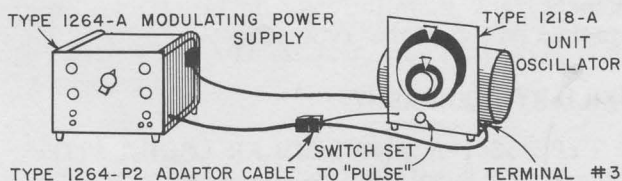

Figure 4. Connection of Type 1264-A to Type 1218-A Unit Oscillator by Means of Type 1264-P2 Adaptor Cable.
2.4.3 CONNECTIONS TO TYPE 1218-A UNIT OSCILLATOR. The Type 1264-A Modulating Power Supply can be connected to the Type 1218-A Unit Oscillator by means of the Type 1264-P2 Adaptor Cable as shown in Figure 4. The four-terminal connector on the cable from the oscillator is plugged into the mating receptacle on the right-hand side of the Type 1264-A. The eight-terminal connector on the adaptor cable is plugged into the mating connector on the cable from the Type 1264-A. The telephone plug on the adaptor cable is plugged into the oscillator modulation jack, and the terminal lug is attached to terminal No. 3 on the side of the oscillator. The oscillator function switch should be set to PULSE MOD for best results, although no damage will occur if it is inadvertently set to one of the other positions.